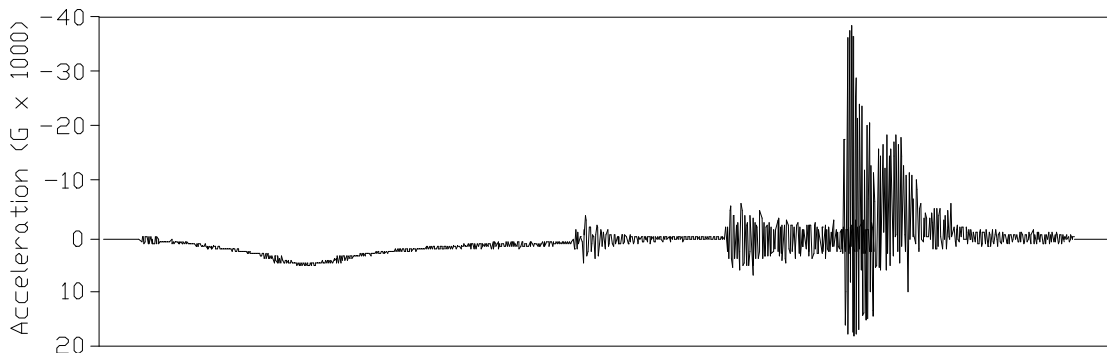

Figure 4-9. Sensor Range Example
In this example an accelerometer is selected as the sensor. The User must estimate the maximum and minimum accelerations to be measured (e.g., a range of +20,000 g's to -40,000 g's). Using a recorder negative signal polarity, the +20,000 g peaks will have to produce 0 volt at the A/D input and -40,000 g's will have to produce 5 volts (see Figure 4-9 for the desired data window).
2. Zero Bias Line Estimation. After the range and units per volt are estimated, the desired point for zero g's must be located (Figure 4-9). In this example, the desired zero g location is at the 33-percent point of the total range or at 1.66-volt input to the A/D.